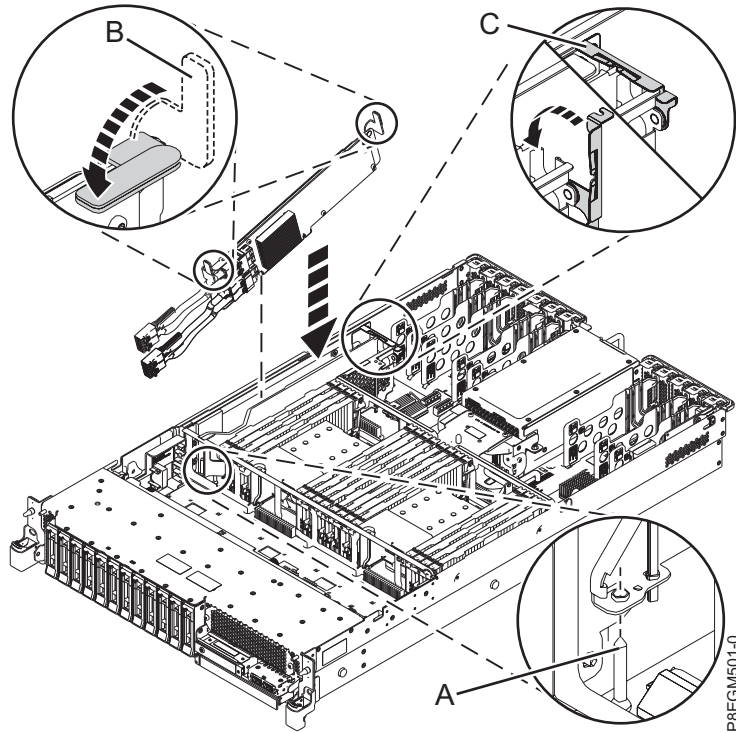

Figure 13. Replacing the PCIe3 x8 SAS RAID internal adapter 6 Gb
2. Reconnect the front SAS cables to the PCIe3 x8 SAS RAID internal adapter 6 Gb front connector P1 or P2 before you install the adapter, as shown in Figure 13 on page 15. Push the cable connector in until the connector latch clicks.
4. Complete the installation of the PCIe3 x8 SAS RAID internal adapter 6 Gb by fully seating it. Ensure that the adapter is installed on locating pin (A). Press the top-center edge of the card down to firmly seat it into the system backplane connector, as shown in Figure 13 on page 15.
5. Push the blue handles (B) in the direction that is shown in Figure 13 on page 15.
6. Push the cable retention bracket (C) in the direction that is shown in Figure 13 on page 15.